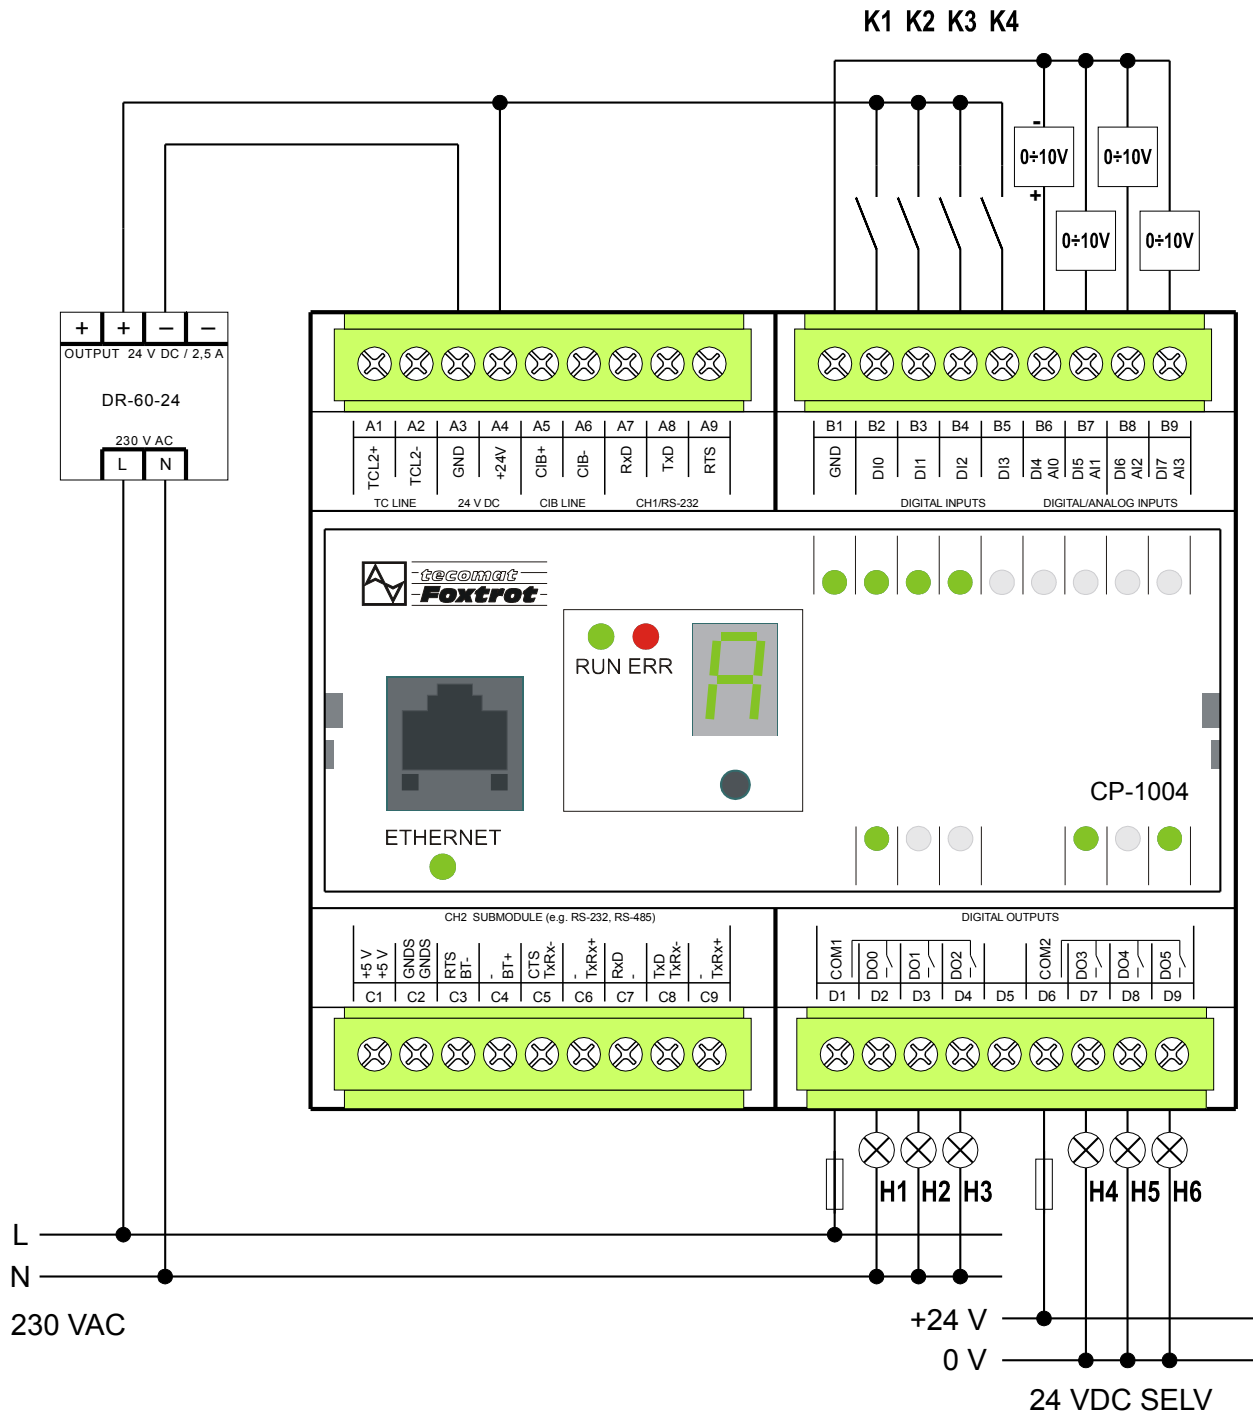

Fig. 2.7.3.2 An example of wiring the CP-1004 module analogue inputs
6. The A3 and B1 terminals (GND) should not be connected with each other (they are connected via internal circuits). In powering CP and the input circuits from one source (see the example), the B1 terminal is not used at all. When powering the DI input circuits from a separate source, then the negative terminal of the source should be connected to the B1 terminal (see Fig. 2.7.3.2).